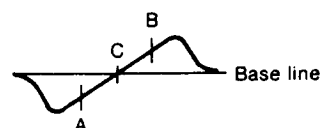

Fig. 11
2. Use the T202 core to form the S-curve shown in Fig. 11. Adjust the symmetry of A and B about point C for linearity.